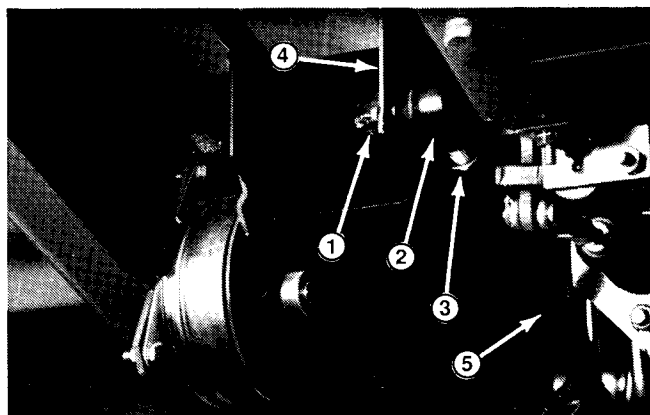

Figure 19
2. Remove cotter key and slotted nut from ball joint at traction pedal (Fig. 19). Disconnect ball joint from traction pedal.